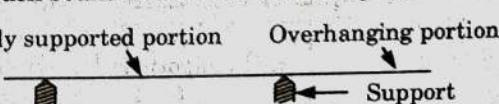

Fig. 1.15.3.
- iii. **Overhanging Beam :** If the end portion of a beam is extended beyond the support, such beam is known as overhanging beam (Fig. 1.15.3).